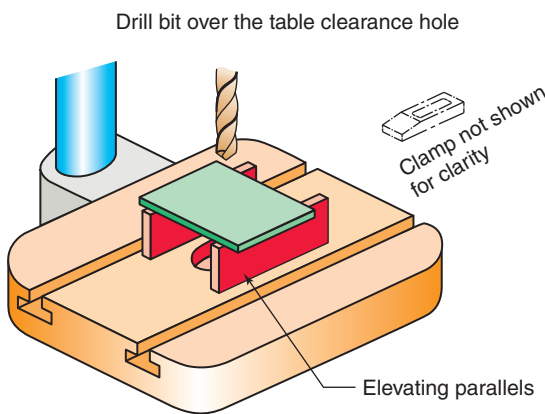

Figure 10-39 Two ways to protect the drill press table.
- *Use the clearance hole* (Fig. 10-39). Place the workpiece with the intended hole location directly over the clearance hole in the machine table. Before clamping, first test the location with the drill bit to the clearance hole. Rotate the table if needed, such that the drill passes through the hole.
- *Elevate the work* up off the table by clamping over parallel bars (Fig. 10-39) a block of metal or even a sheet of plywood to provide drill clearance to the table. In this case, use the quill stop on the press to prevent the drill from reaching the table as it breaks through the work.